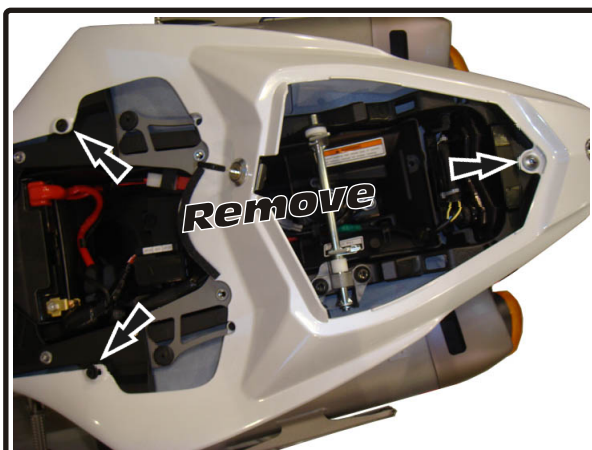

Fig. 1
3. Remove upper portion of rear tail. (See Fig. 1 & 2)
- Remove 2 front plastic screw type rivets. (Fig. 1)
- Remove bolt. (Fig. 1)